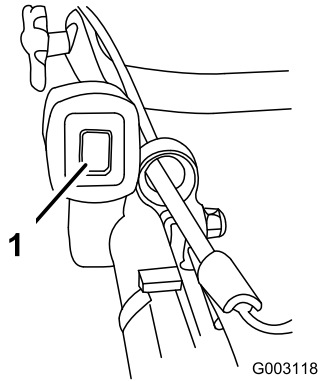

Figure 22
1. Push the ignition toggle switch to the Stop position (Figure 22).